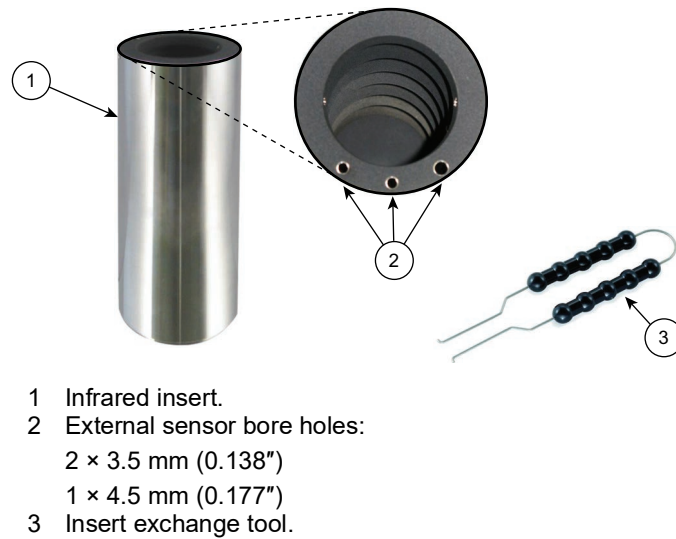

Figure 7: Infrared Insert
The holes in the border, see Figure 7 item 2, are for external reference sensors. These let accurate temperatures of the inside face of the infrared Insert be measured.
1. Use the Insert exchange tool to put the infrared Insert into the dry block, see Figure 7 item 3.
1. Let the calibrator become cool and then remove the infrared Insert. Use the Insert exchange tool to pull the infrared Insert out of the dry block, see Figure 7 item 3.